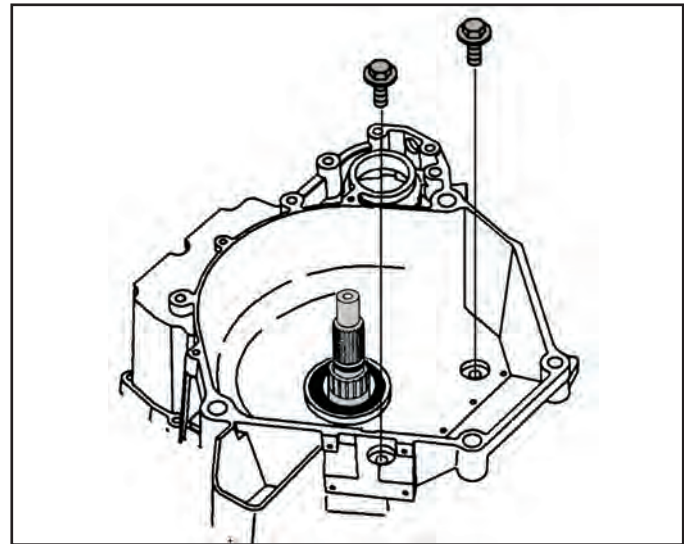

Figure 58
4. Remove the two 10mm bolts from the front of the converter housing as shown in Figure 58.